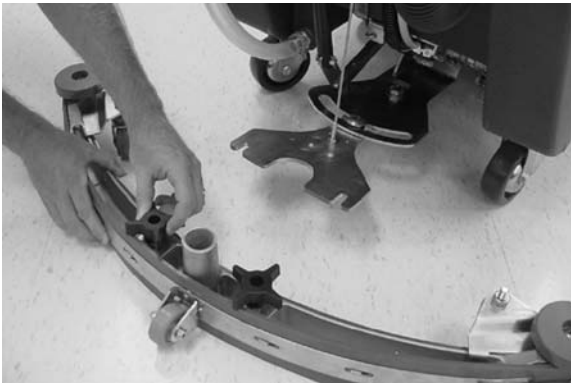

FIG. 4
- Loosen two thumb knobs on squeegee assembly and slide squeegee into slots on squeegee mount bracket (Figure 4).